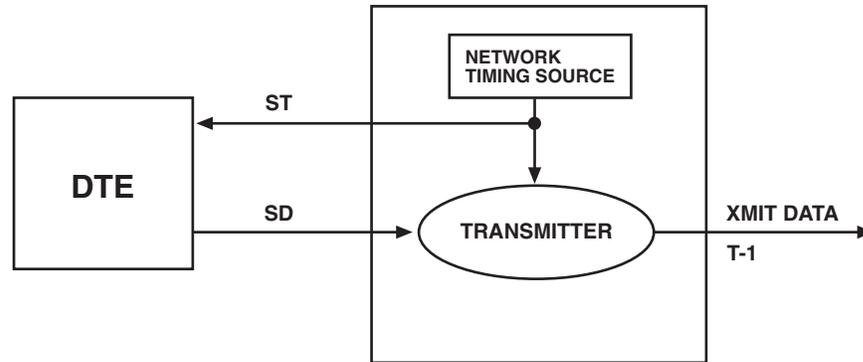

Figure 4-6. Loop 2 Timing Diagram.
Loop 2 Timing—This timing mode is used when the Data Terminal Equipment (DTE), attached to Port A on the I/O interface module (Port B is not used), will not return (loop) a Terminal Timing (TT) clock signal in response to receiving the Send Timing (ST) signal from the T1 CSU/DSU Card. See Figure 4-6.